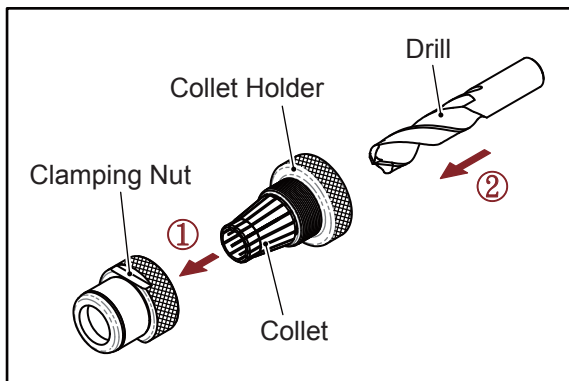
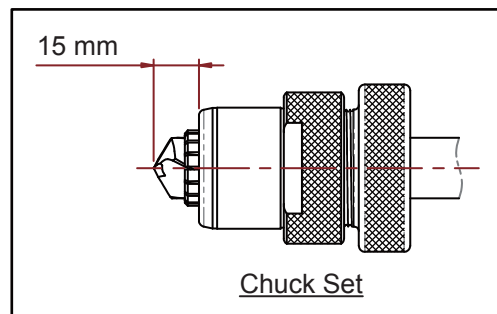

Fig. 6-2
Fig. 6-3
3. Screw in a little bit by clamping nut (Fig. 6-2 Step ①), then insert the drill through the collet holder (Fig. 6-2 Step ②), and push in until the drill is out of the clamping nut about 15 mm. (Fig. 6-3)